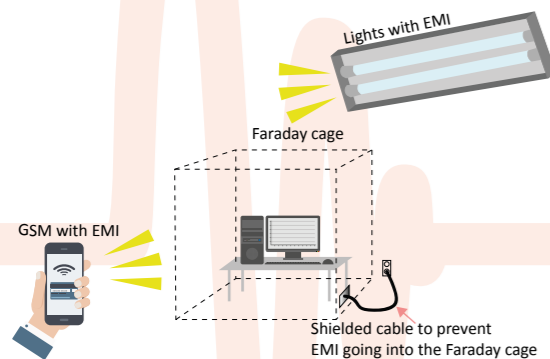

Figure 63 : Cables entering a Faraday cage can carry undesirable signals
- 63 Cables entering a Faraday cage can carry undesirable signals** into and out of the housing. When these cables are shielded, the cable shield should be 360 degrees around the cable, and be connected to the housing using a gland or cable entry plate. Entry shielding is also available in watertight and flame retardant versions. Power lines and signal lines should be filtered when it is not certain what frequencies are on the line. (Fig. 63)